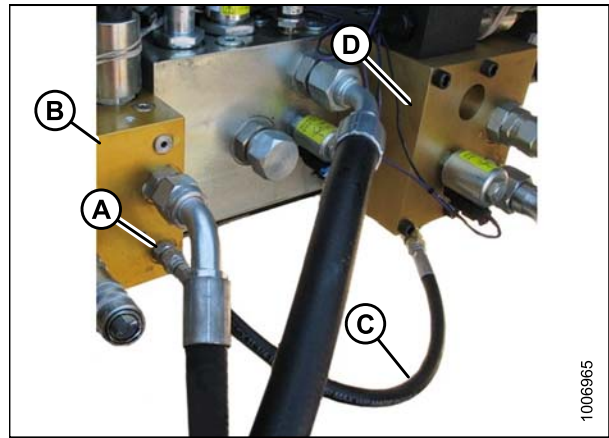

Figure 3.61: Connected Jumper Hose
2. Disconnect jumper hose (B) from 90 degree fitting (C) at port R4 on the reverser valve block (A).
3. Rotate 90 degree fitting (D) under reverser valve block so hose can be routed to port C2 at (C) as shown in Figure 3.61, page 50.